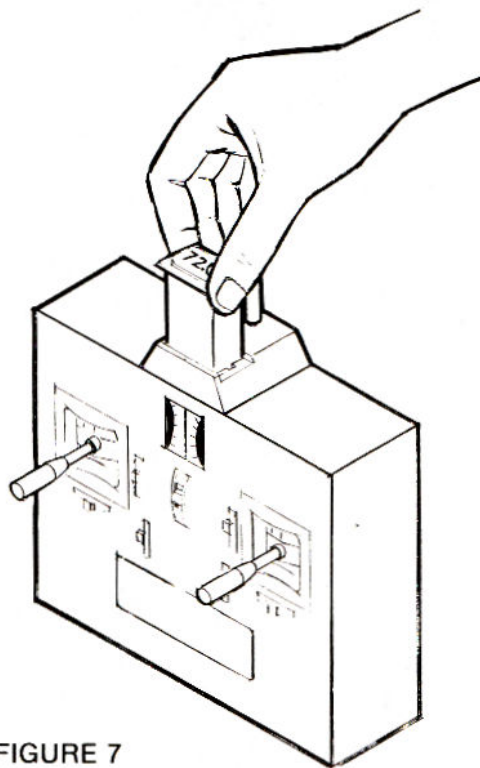

FIGURE 7
1. Pull the R.F. module out of the antenna post assembly by using thumb and index fingers (Fig. 7).